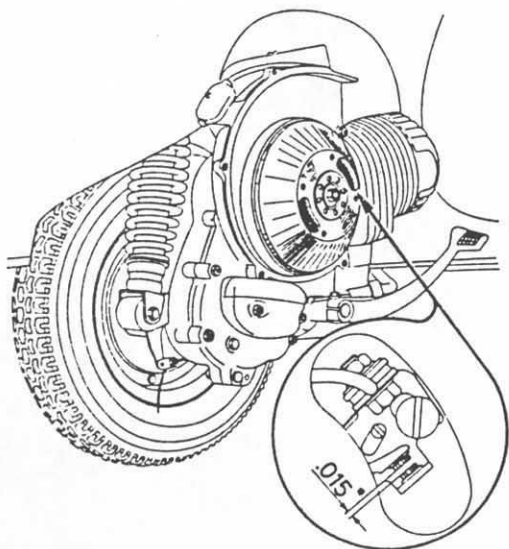

Fig. 16 - Breaker points
- (4) - Clean the two lubricators on front wheel hub and refill them by means of a grease gun.
- (5) - Clean and adjust the breaker points of the flywheel magneto (see Fig. 16) to .4 mm. gap (.015").